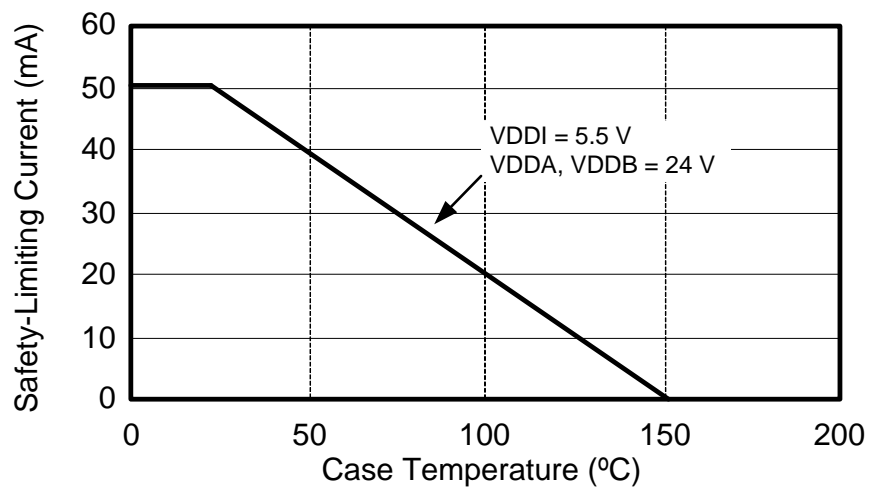

Figure 4. NB SOIC-16, Thermal Derating Curve, Dependence of Safety Limiting Values with Case Temperature per DIN EN 60747-5-2
- Maximum value allowed in the event of a failure. Refer to the thermal derating curve in Figure 4.